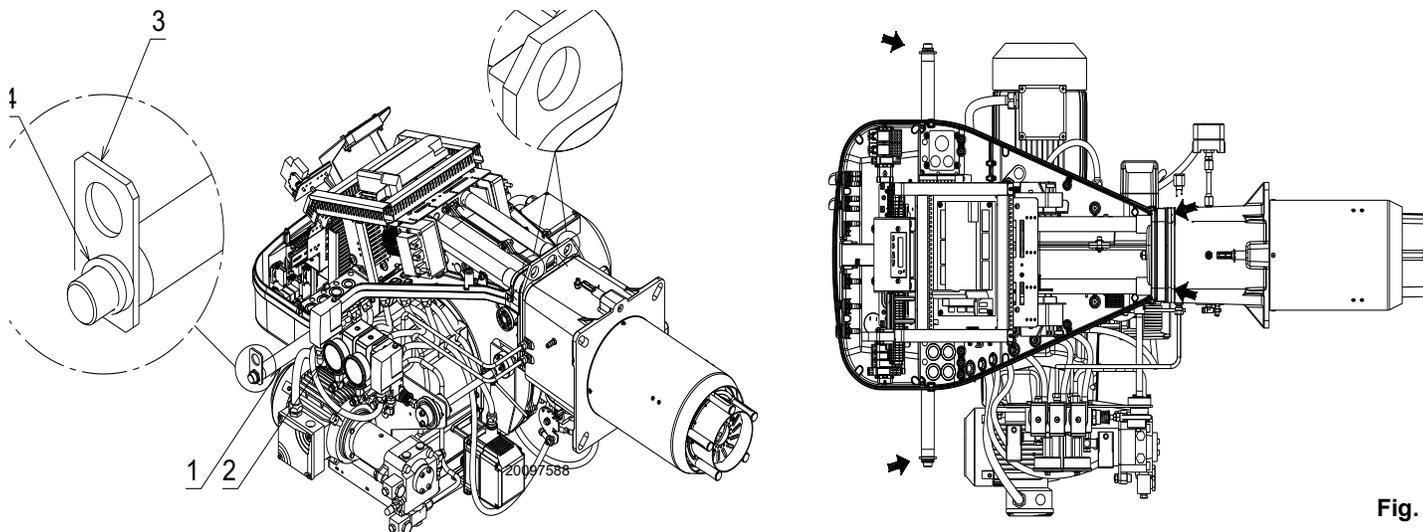

Fig. 9
- screw the two extension bars 1) on the pins 2)(Fig. 9);
The four burner lifting points are indicated in Fig. 9.